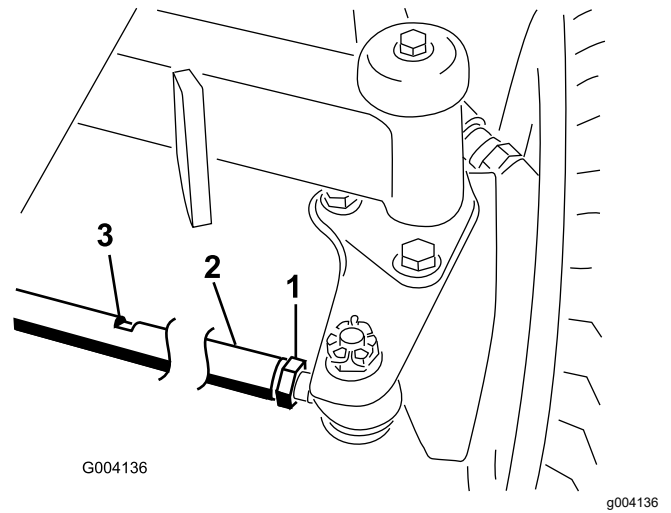

Figure 107
1. Loosen the jam nut on each end of the tie rod (Figure 107).